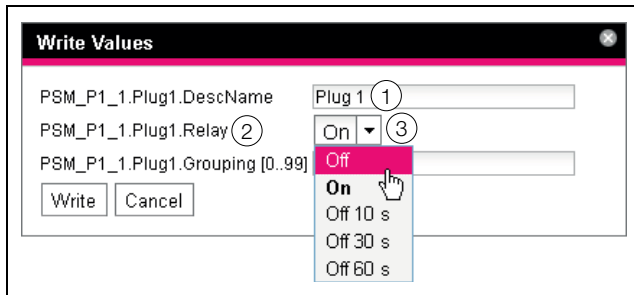

Fig. 19: Performing switch commands
DescName	The specific description that was assigned to the output or the socket (fig. 19, item 1).
Command	The command to be performed. The following commands are supported: "Off", "On", "Off 10 s", "Off 30 s", "Off 60 s" (fig. 19, item 3).
Device	The device index (ID number) that is prefixed to the associated Real Device in the navigation area of the IoT interface website (fig. 19, item 2).
Command	The command to be performed. The following commands are supported: "Off", "On", "Off 10 s", "Off 30 s", "Off 60 s" (fig 19, item 3).